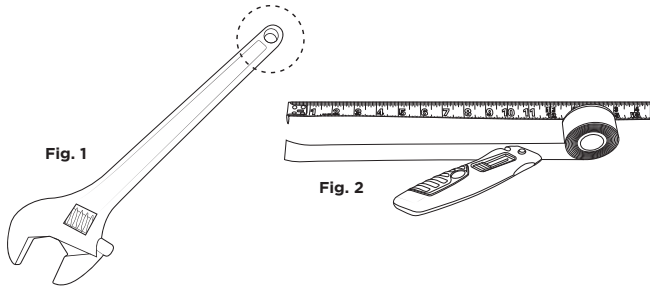

Fig. 1
1. For attachment to tools with a captive hole or handle engineered hole into the tool [fig 1], locate the tool’s connection point. Weigh your tool to determine the appropriate tool lanyard to use and directly attach that tool lanyard to the captive hole.